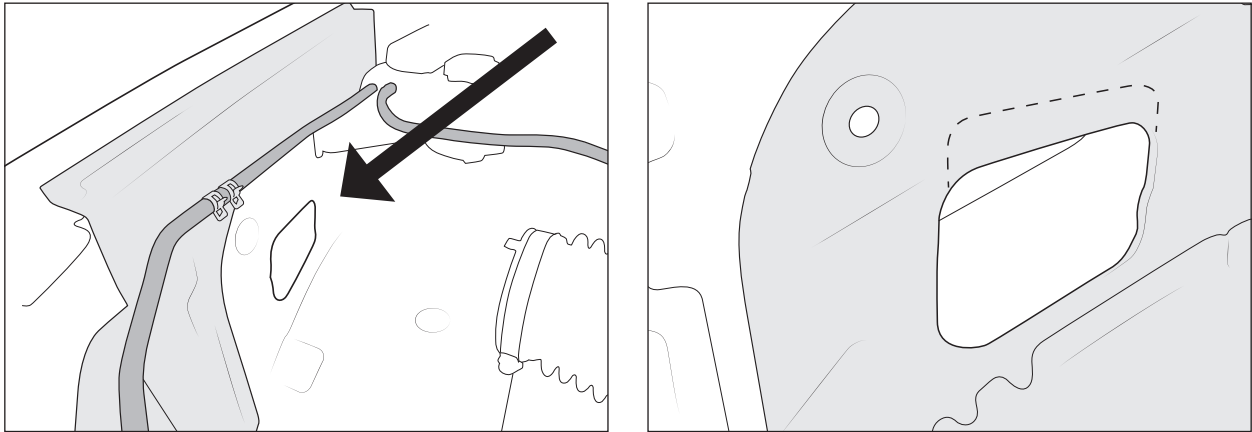

Figure 6
11. Cut approximately 1/2-inch out of the top of the intake opening as shown (fig. 6). Use touch-up paint or rust inhibitor on all bare metal edges.